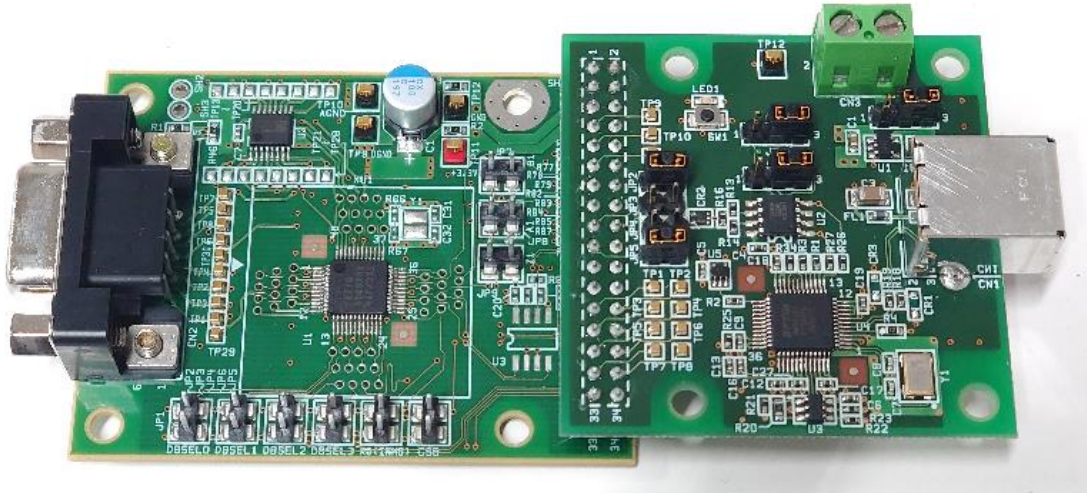

Fig 2. Connection between AUA6900 and AUA0290
- ① Connect AUA6900 and AUA0290 as shown in Figure 2.
- ② Set JP7, JP8, and JP9 of AUA6900 to open.
- ③ Check the model number of AUA6900 and set the jumper settings of AUA0290 as shown in Table 1.
- ④ Connect the resolver.